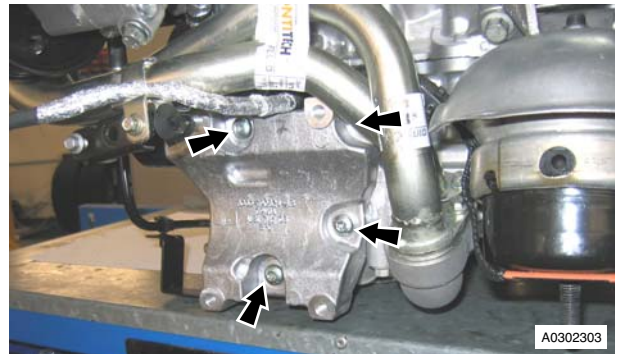

Figure 7
- Remove Torx bolts (x4) that attach the A/C compressor mounting bracket to engine bedplate and sump. Remove bracket (refer to Figure 7).